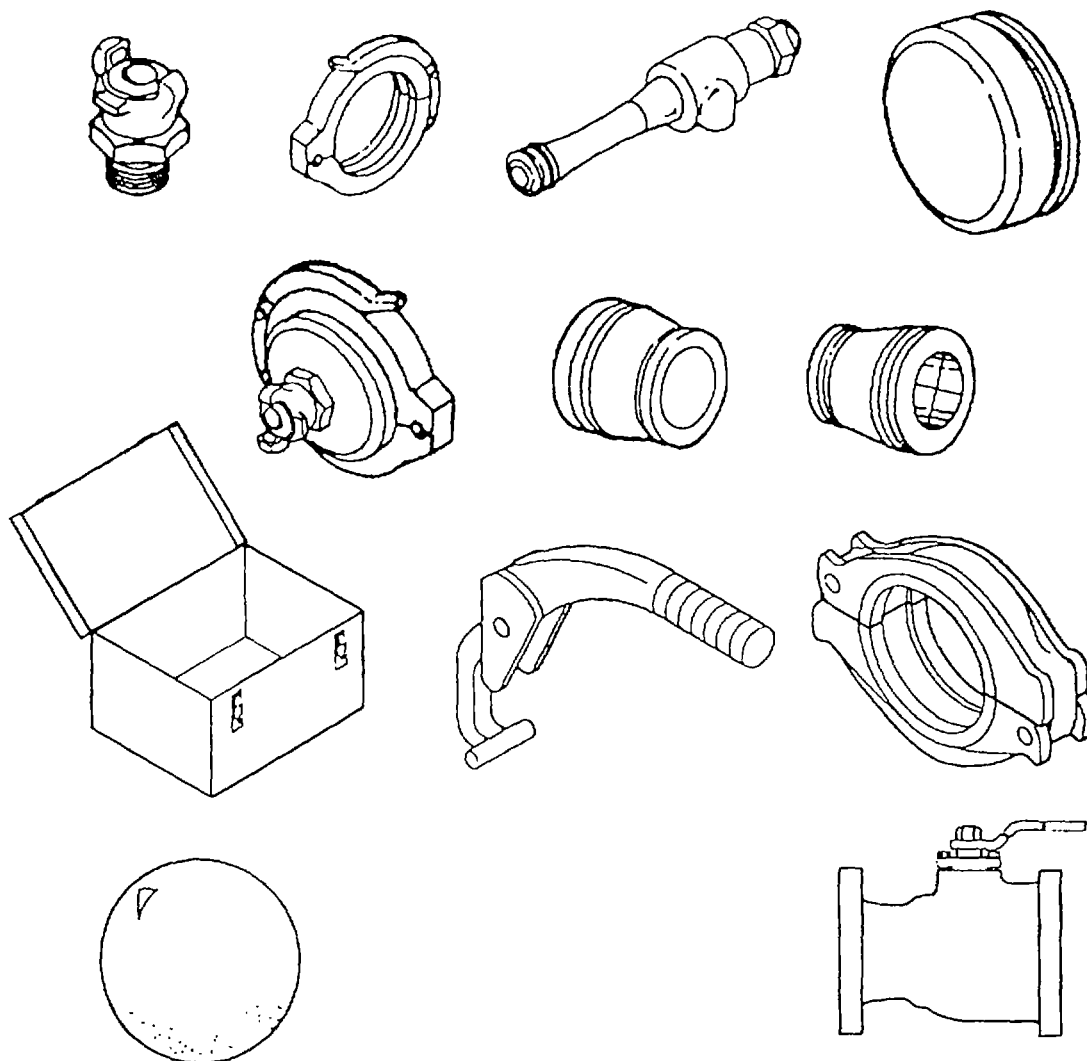

Figure 1-14. Displacement and Evacuation Kit
- (17) **DISPLACEMENT AND EVACUATION KIT** (Figure 1-14). Used to remove water and air from hoses prior to repacking.